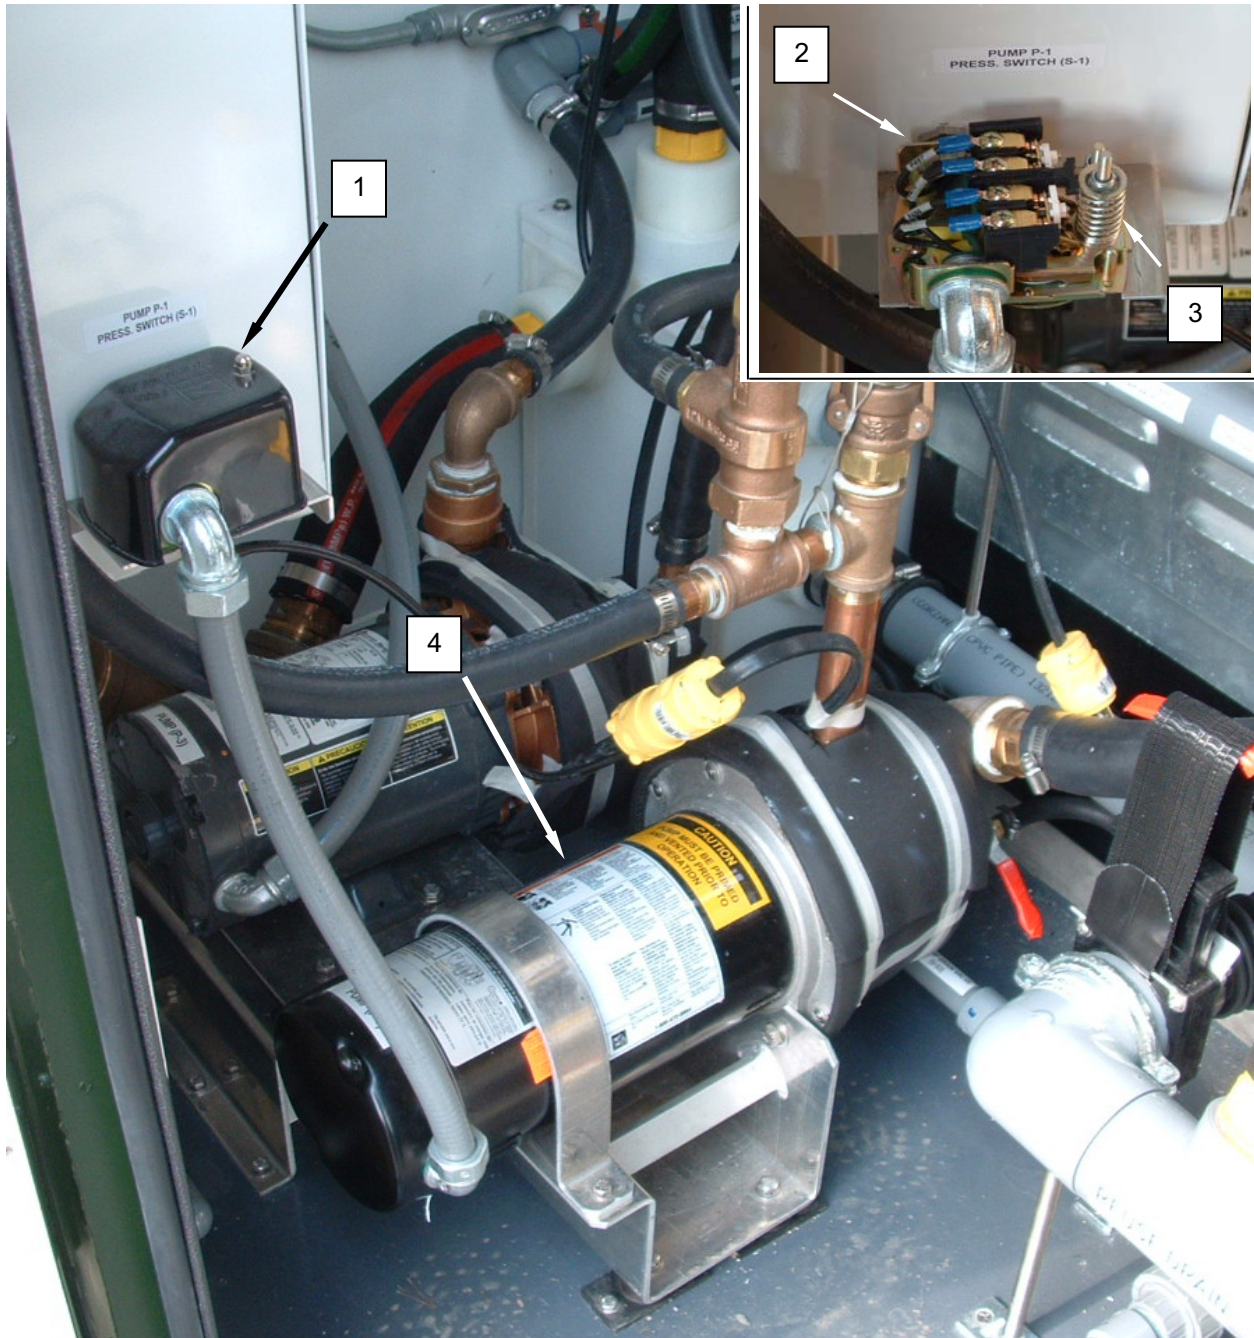

Figure 1. Test the Pressure Switch and Pump.
2. Loosen nut retaining pressure switch cover (**Figure 1, Item 1**) and remove cover.
3. Tag and disconnect motor wiring from pressure switch (**Figure 1, Item 2**).
4. Use an ohmmeter to check for continuity across each leg of pressure switch (**Figure 1, Item 2**). There should be 0 ohms resistance.
5. Depress switch actuator (**Figure 1, Item 3**) and check for continuity. There should be infinite resistance. Replace a pressure switch (**Figure 1, Item 2**) that fails either test.
7. Use an ohmmeter to test of infinite resistance between each motor lead and ground. Replace a motor (**Figure 1, Item 4**) that fails either test.
8. Reconnect motor wiring to switch (**Figure 1, Item 2**) as tagged.
9. Install pressure switch cover (**Figure 1, Item 1**) and retain with nut.